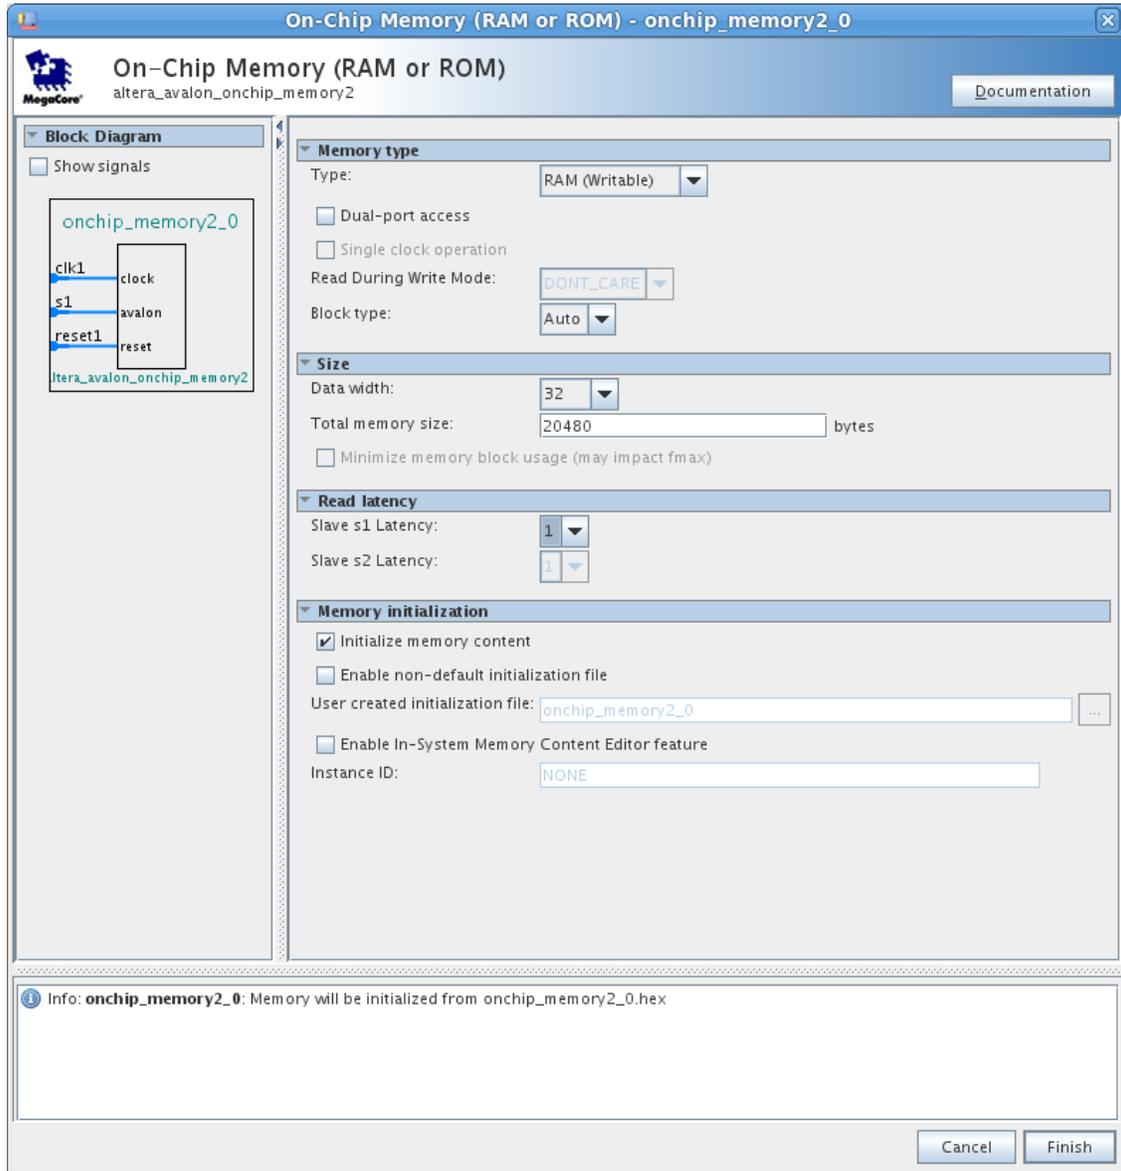

Figure 9. Define the on-chip memory.
- In the On-Chip Memory Configuration Wizard window, shown in Figure 9, set the memory width to 32 bits and the total memory size to 20480 bytes